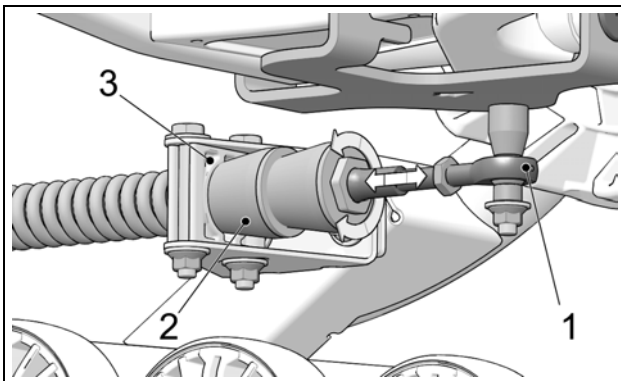

Figure 18
- Turn stabilizing arm nut to adjust length of rod end (1) and get rubber cone (2) to apply light pressure on anti-rotation retainer (3). Figure 18.